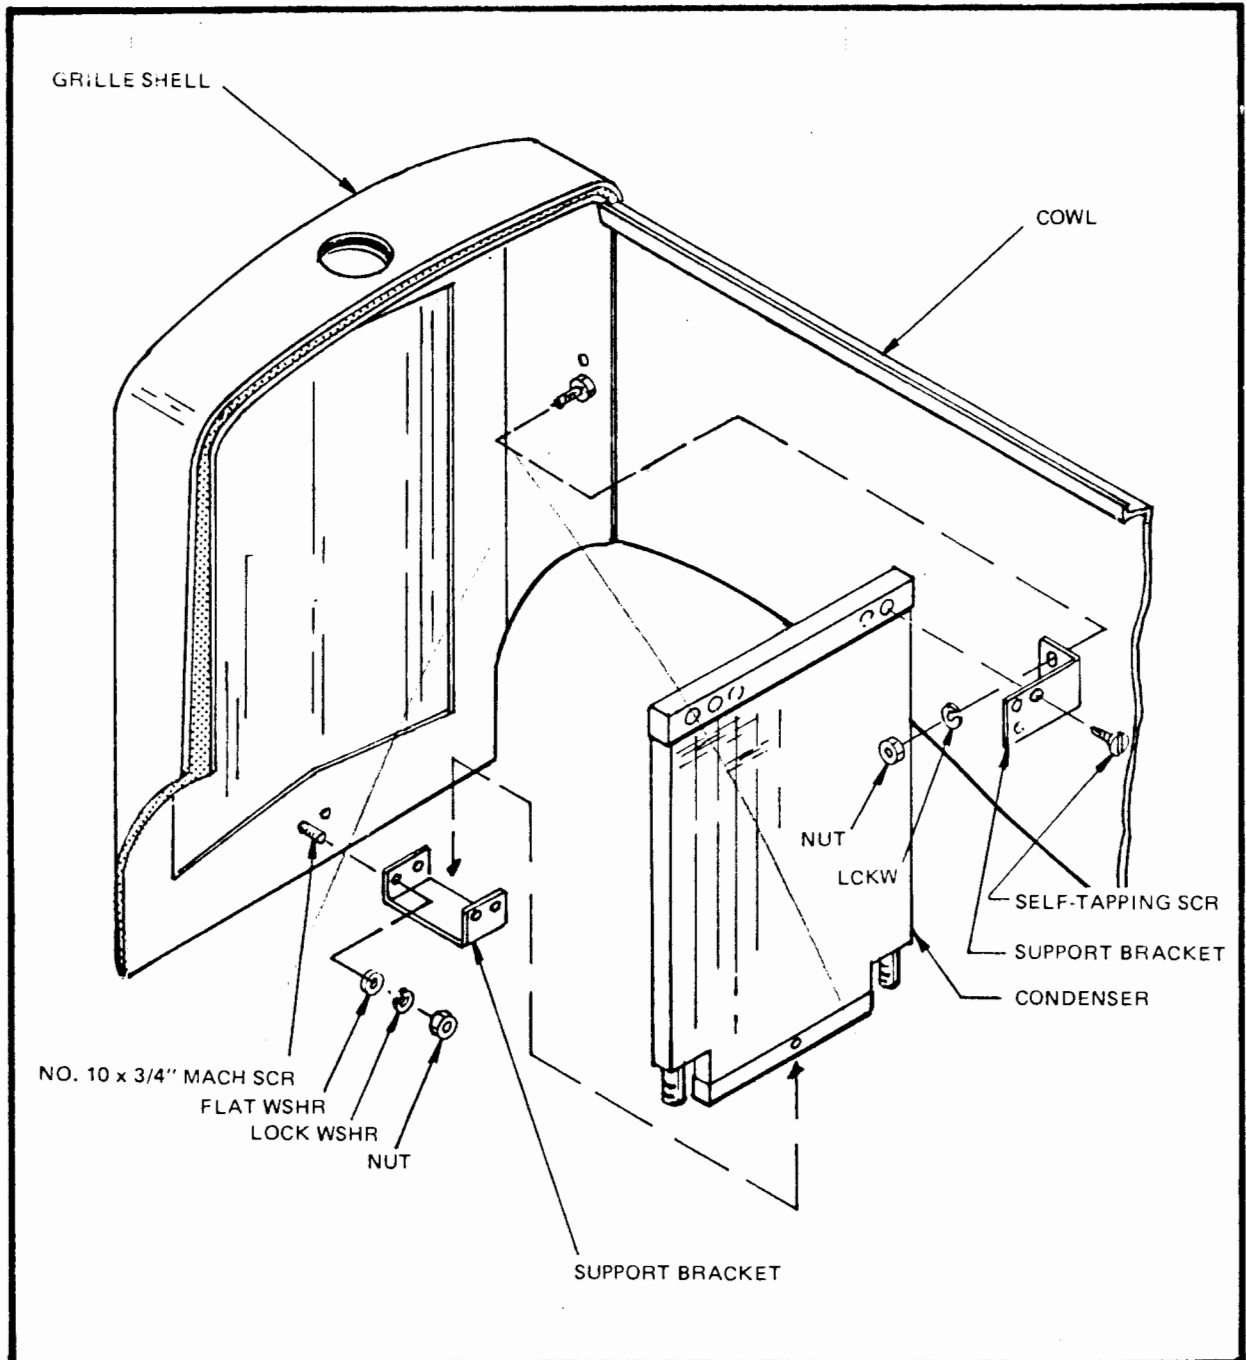

Figure 47
- Bend bottom bracket around until it can be fastened to fiberglass of grille shell. Secure with No. 10 x 3/4" machine screw with flat washer, lock washer and nut. Keep condenser as close to radiator as possible. (Figure 47)